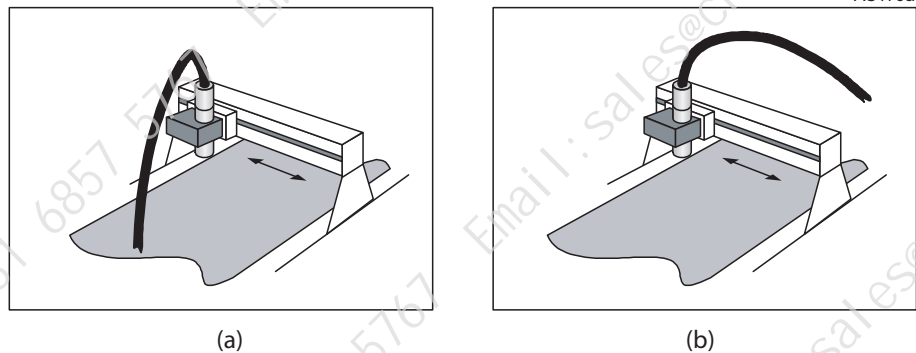

Figure 7. Conduit tension
- Make sure that the printhead movement does not apply a rotation force (torsion) to the conduit clamp at the printhead end of the conduit. Figure 7 (a) shows an incorrect design that causes this problem. The rotation force is reversed when the printhead direction is reversed. These repeated reversals can cause a failure of the conduit at the printhead end. Figure 7 (b) shows a better design that causes only a bend in the conduit, but does not cause any torsion.